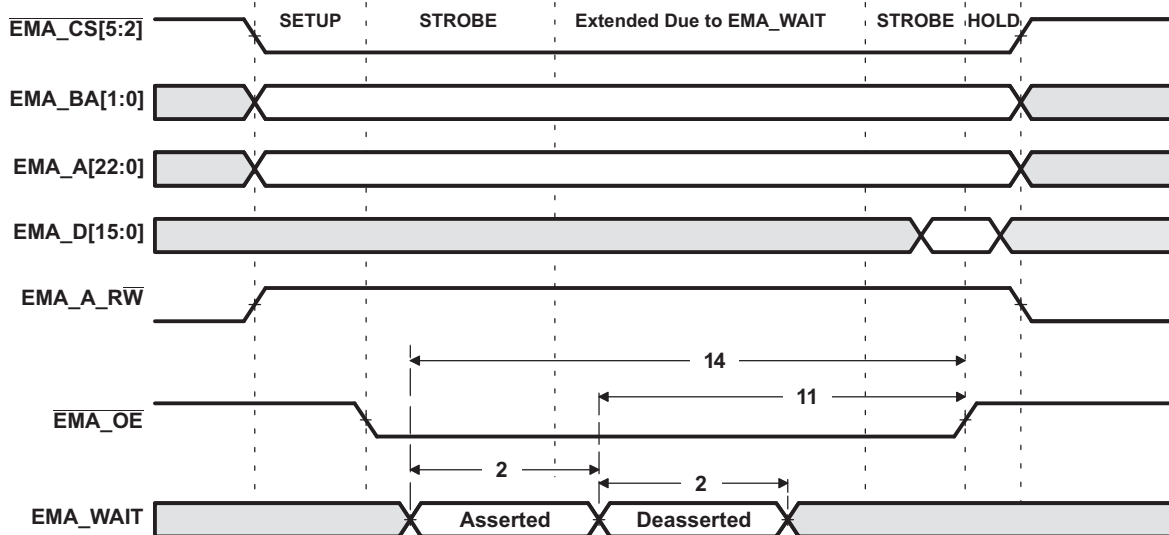
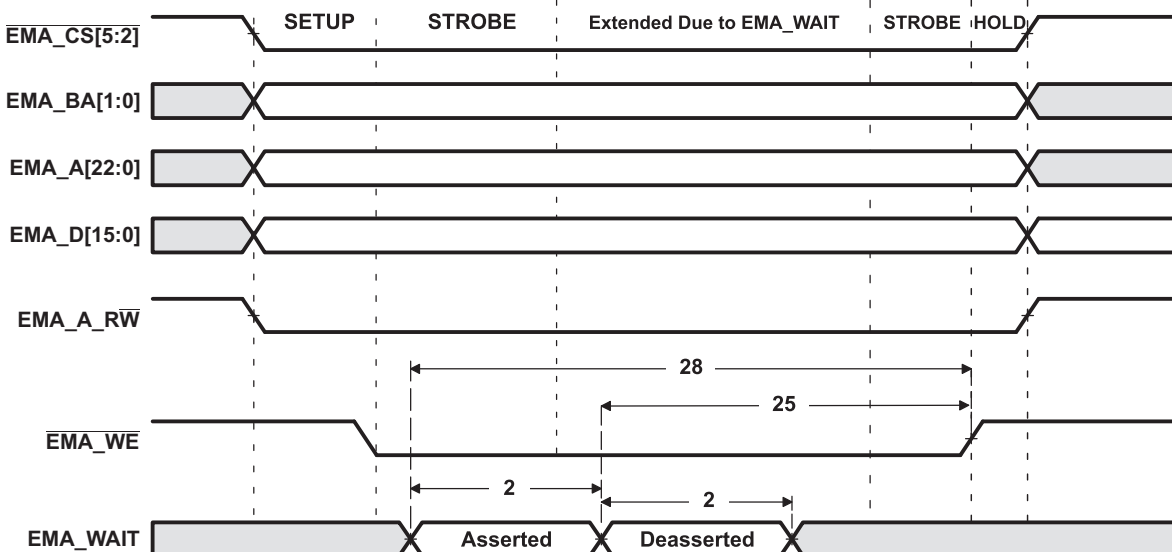

Figure 6-16. EMA_WAIT Read Timing Requirements
Figure 6-17. EMA_WAIT Write Timing Requirements
- (1) E = EMA_CLK period or in ns. EMA_CLK is selected either as SYSCLK3 or the PLL0 output clock divided by 4.5. As an example, when SYSCLK3 is selected and set to 100MHz, E=10ns
- (2) Setup before end of STROBE phase (if no extended wait states are inserted) by which EM_WAIT must be asserted to add extended wait states. Figure 6-16 and Figure 6-17 describe EMIF transactions that include extended wait states inserted during the STROBE phase. However, cycles inserted as part of this extended wait period should not be counted; the 4E requirement is to the start of where the HOLD phase would begin if there were no extended wait cycles.